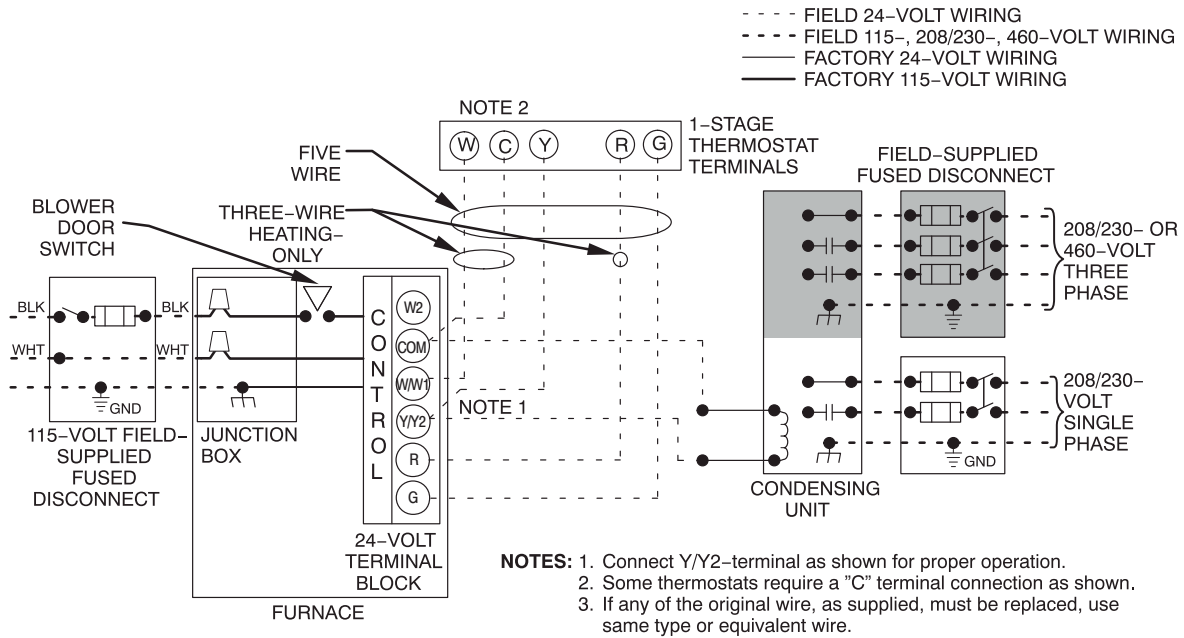

Fig. 35 - Typical Two-Stage Field Wiring Diagram
7. Connect field power and neutral leads to furnace power leads as shown in **Fig. 35**.
6. Connect power cord power and neutral leads to furnace power leads as shown in **Fig. 35**.
5. Connect field power and neutral leads to furnace power leads. as shown in **Fig. 35**.
Make field 24-v connections at the 24-v terminal strip. See **Fig. 36**. Connect terminal Y/Y2 as shown in Fig. 35 for proper cooling operation. Use only AWG No. 18, color-coded, copper thermostat wire.